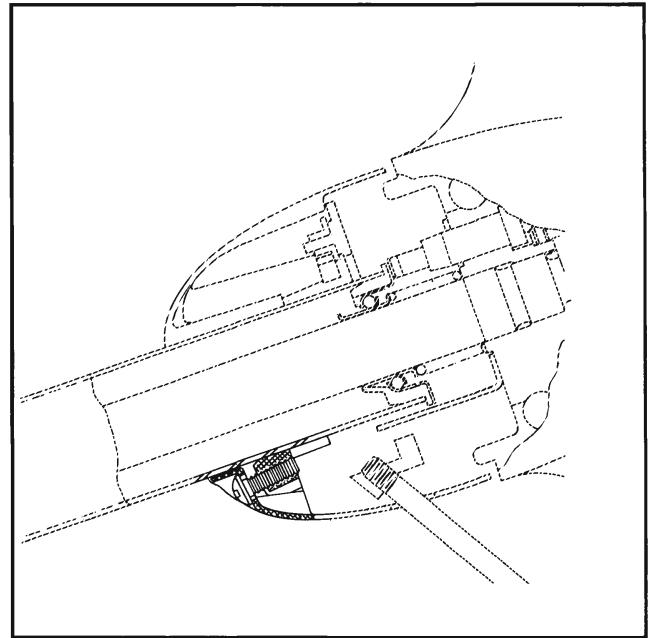
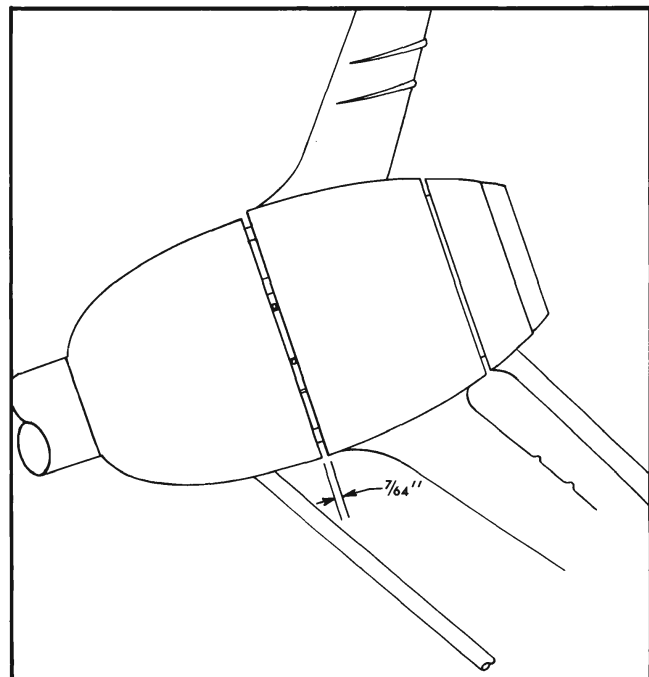

Fig. 11-72 Directional Signal Housing to Steering Column Securing Screw
Fig. 11-74 Position for Directional Signal Housing
5. Loosen screw securing directional signal housing to steering column jacket and remove housing from steering jacket (Fig. 11-72).
Fig. 11-74 and tighten screw which secures housing to steering column jacket (Fig. 11-72).